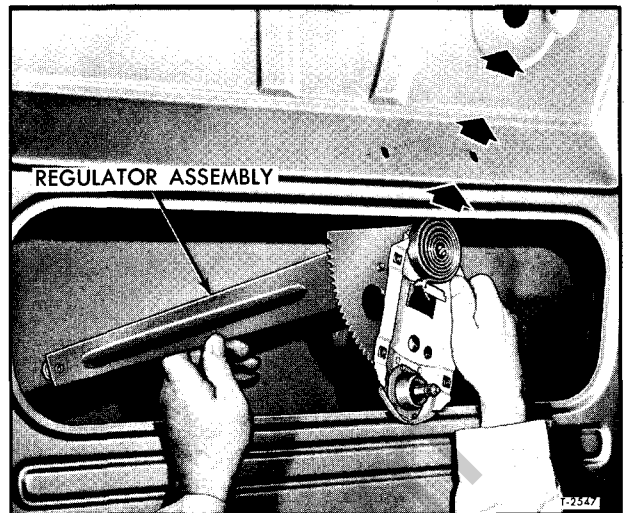

Figure 27—Replacing Door Window Glass Regulator
3. Referring to figure 27, remove regulator.